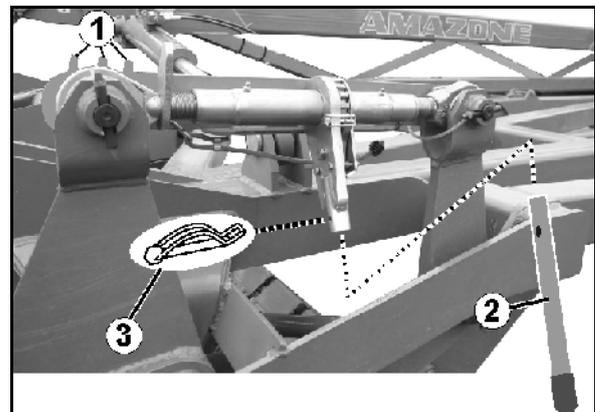

Fig. 44
The scale (Fig. 44/1) helps you to set the spindles to the same length.
2. Secure the hand lever (Fig. 44/2) with lynch pin (Fig. 44/3) to the ratchet (Fig. 44).